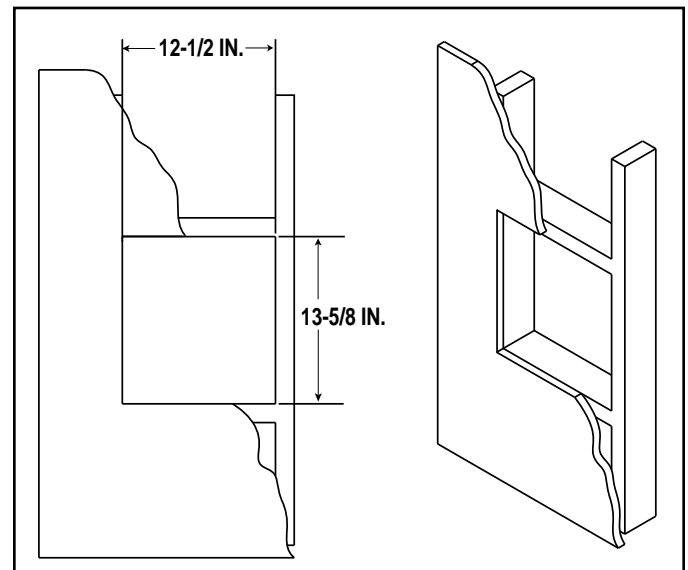

Figure 1. Framing Dimensions
1. Construct a framework as shown in Figure 1. Framework material should be the same dimensions as the material used for the wall framing. The dimensions of the box must be 13-5/8 inches high by 12-1/2 inches wide.
2. Cut a 13 5/8 inches high by 12-1/2 inches wide opening into the exterior of the house. Stay inside of the newly installed framing as shown in Figure 1.